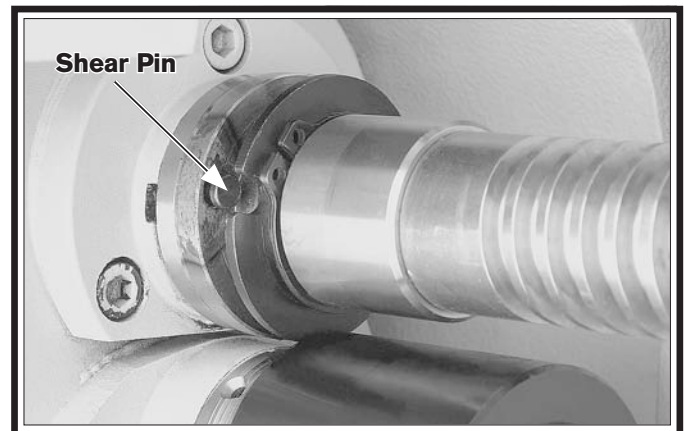

Figure 135. New shear pin installed in bore.
9. Put a drop of oil in the hole, then insert the new shear pin into the bore, as shown in **Figure 135**.